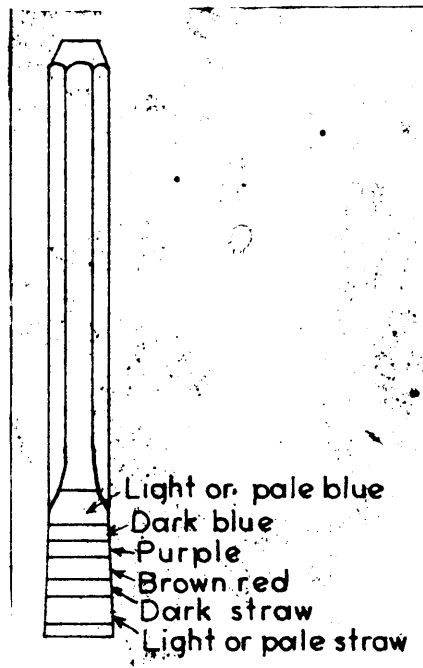

Figure 4.
5. The tempering is accomplished by the heat which is left in the uncooled portion of the tool, that moves down to the cutting end and softens it. When the heat is moving down the shank of the tool, colors are detected. First color to pass down will be light or pale straw, followed in turn by dark straw, brown, red, purple, dark blue, and light or pale blue. (Figure 4.)